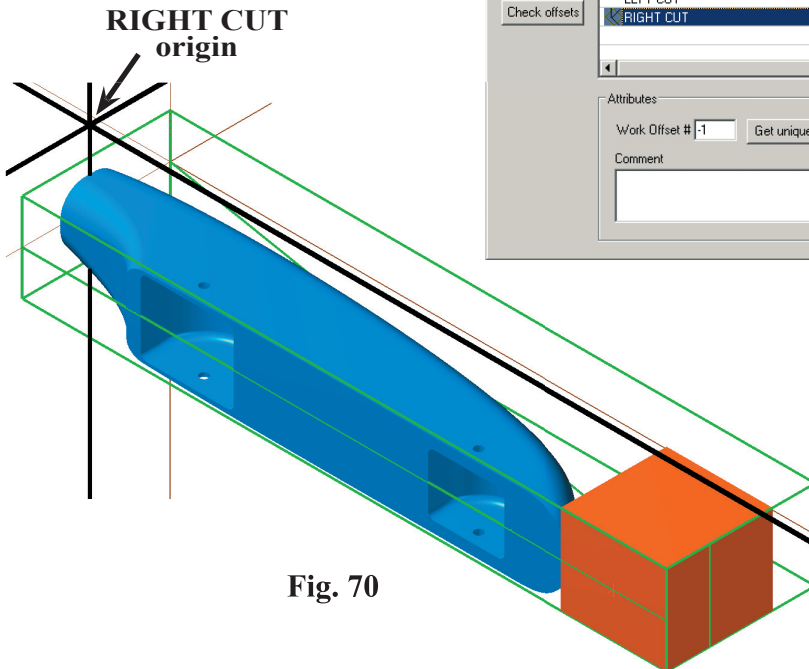

Fig. 70
Step 8. Change to the Isometric View. Use or **Alt-7, Fig. 70.**